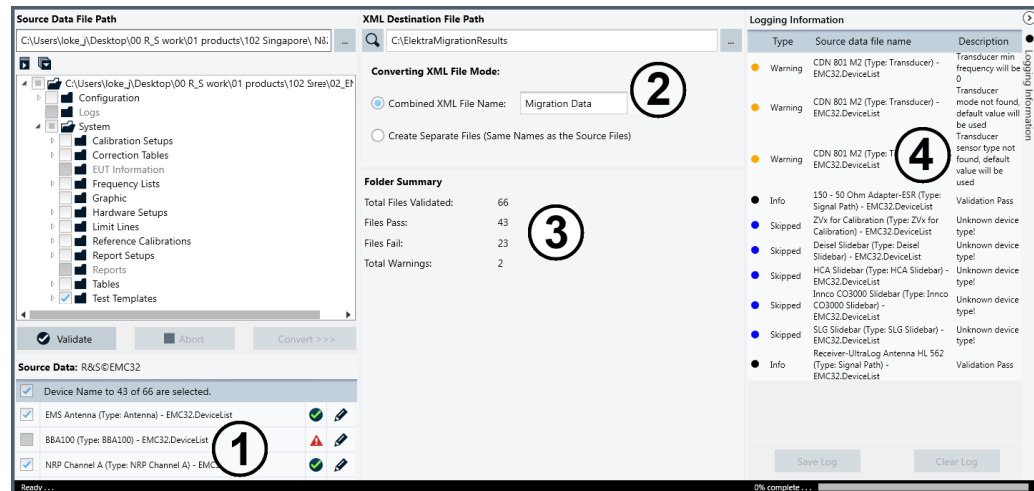

Figure 2-7: Source data selected for conversion to XML data (EMC32)
The source data selection interface has the same operation as that of the EMC32 (Figure 2-7), but differs in that you can select the data files directly instead.
In the list of "Source Data" files (1), you can select the available files individually. In this dialog section, if you check the checkbox on top of the list, the tool selects all files that have passed validation (see sections (3) and (4) in Figure 2-7).